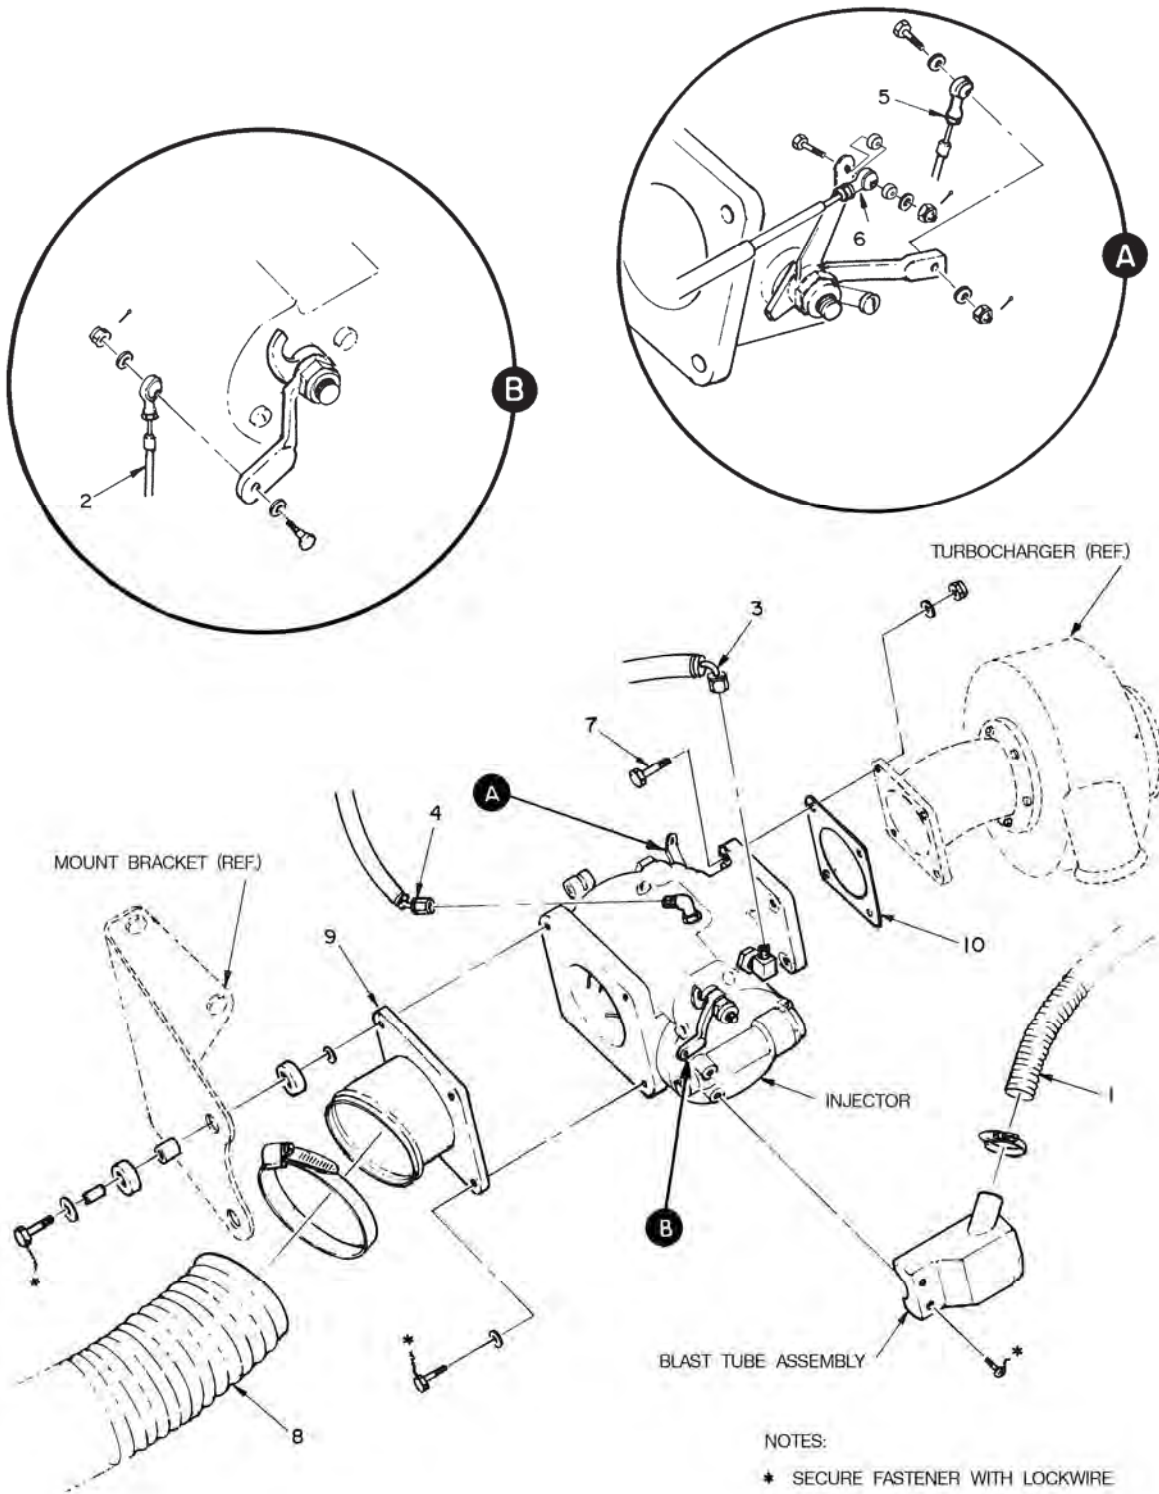
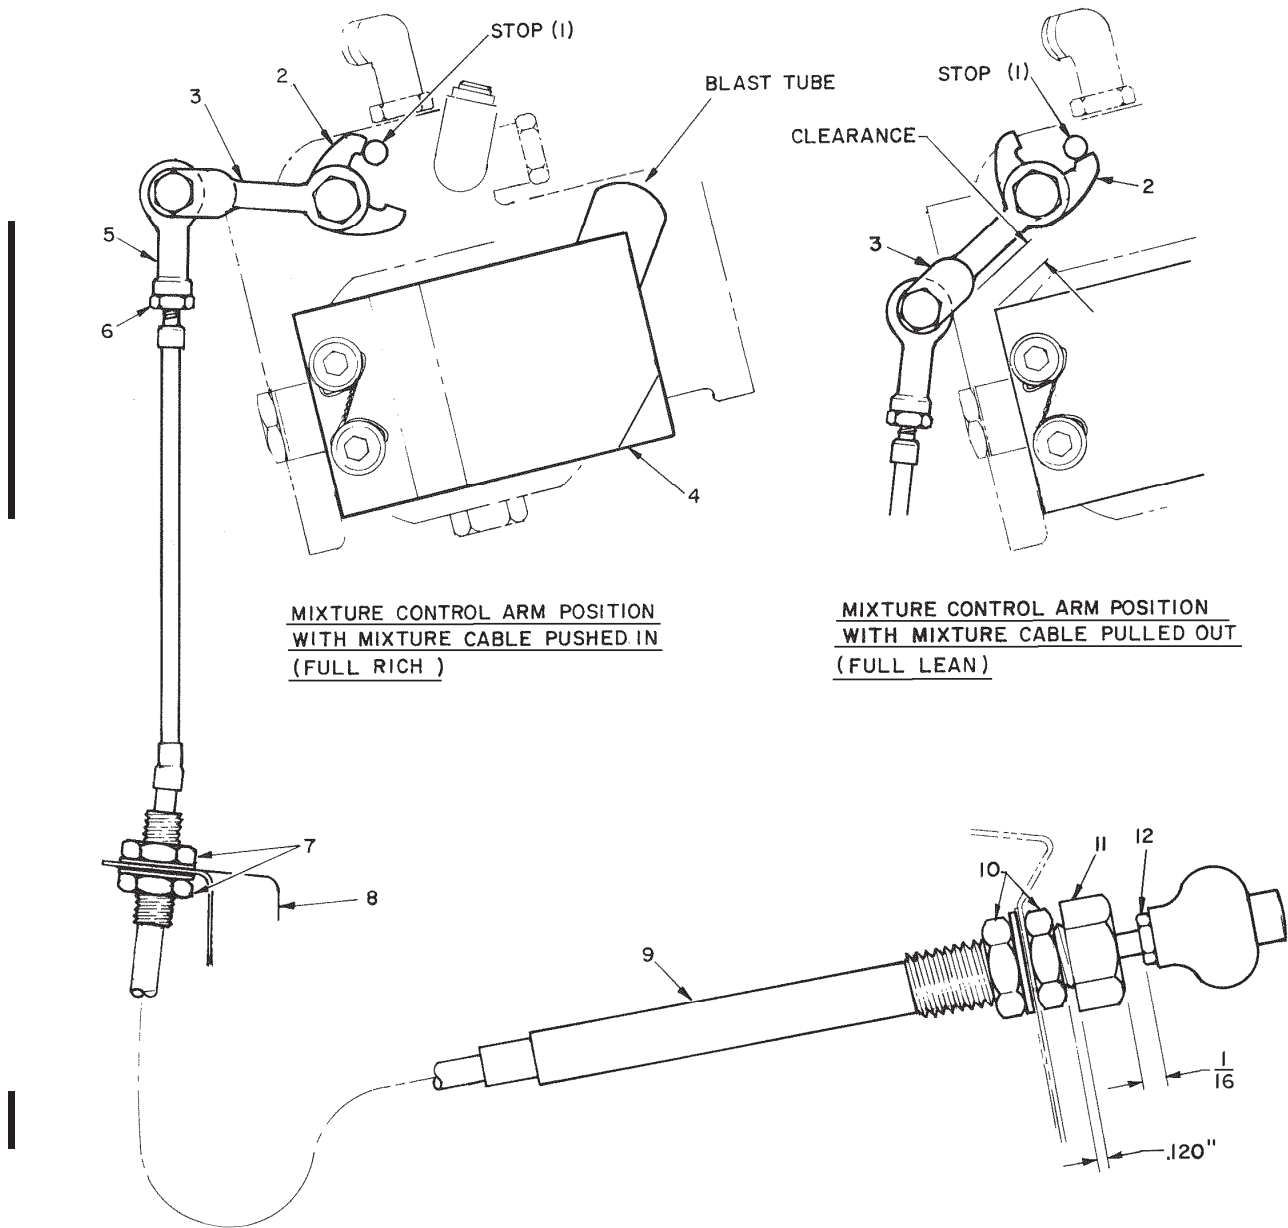

Figure 13-5. Fuel Servo Installation
Figure 13-6. Mixture Control Rigging
(3) Normal Operating Characteristics
(4) Rigging Throttle and Wastegate Actuating Arm to Injector
(5) Injector - Removal (See Fig. 13-5)
- (d) Disconnect throttle (5) and wastegate (6) controls.
- (e) Remove four attachment bolts (7).
- (f) Disconnect air inlet hose (8) from injector adapter.
- (g) Disconnect injector and air inlet adapter (9) by removing the four connecting bolts, two of which attach these components to the mounting bracket.
- (6) Injector - Inspection
- (7) Injector - Installation (See Fig. 13-5)
NOTE: On new injectors and those that have had throttle arm removed, it will be necessary to check rigging of throttle arm to injector and adjust idle stop screw prior to installation. (See Fig. 13-5)
Mixture control friction should be adjusted to provide sufficient "drag" to prevent rotation due to vibration, yet allow normal mixture adjustment without binding. Friction adjustments can be made by varying the torque on the large hex nut (11) by finger pressure without disturbing the mounting position of the control. See Fig. 13-6.
(2) Mixture Cable – Removal (See Figure 13-6)
- (c) Disconnect mixture cable rod end (5) from mixture control lever (3) on injector.
- (d) Break check nut (6) loose from rod end (5) and remove both items from cable (9).
- (e) Remove check nuts (7) securing mixture cable to pylon mount which is aft of firewall. Remove nuts from cable.
- (g) Remove check nut (10) from mixture cable inside instrument console.
- (h) Carefully pull mixture cable (9) through seat structure and out through instrument console.
(3) Mixture Cable - Installation (See Fig. 13-6)
- (a) Install mixture cable (9) through instrument panel and route it through seat structure and firewall.
- (b) Secure mixture control to instrument console with check nuts (10).
NOTE: Mixture control is to be located in panel with a .120" gap between friction nut (11) and check nut (10). See Fig. 13-6.
- (c) Route mixture cable through pylon mount (8) on aft side of firewall and temporarily secure with check nuts (7).
(4) Mixture Control Rigging (See Fig. 13-6)
- (a) Locate mixture control lever (3) on injector as follows:
1 Rotate the mixture control arm (2) until it hits stop (1) in the full rich position. See Fig. 13-5.
- (d) Tighten check nut (6) against rod end (5).
- (e) Position mixture control knob allowing 1/16 in. gap between check nut (12) and friction nut (11).
- (f) With mixture control in this position, loosen check nuts (7) at pylon mount and adjust cable sheath at mount bracket (8) until mixture control arm (2) hits the stop (1). Secure check nuts (7).
NOTE: Mixture control arm (2) must be in full rich position as shown in Fig. 13-6.
- (g) Pull mixture control knob out to full lean position and check that control arm (2) hits the stop (1).